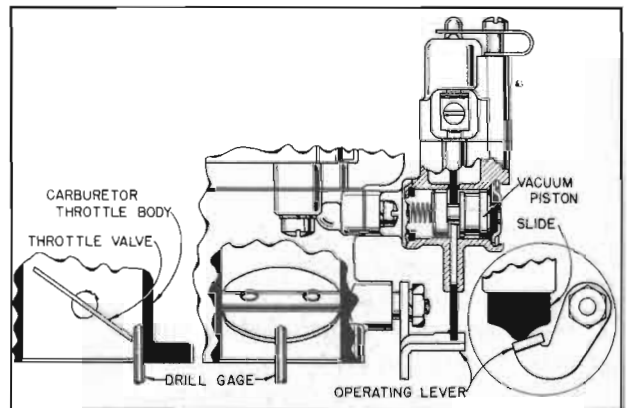

Figure 10-41—Setting Switch Timing with Carburetor Removed
2. Bend tang on switch operating lever until it just touches switch slide. See figure 10-41.